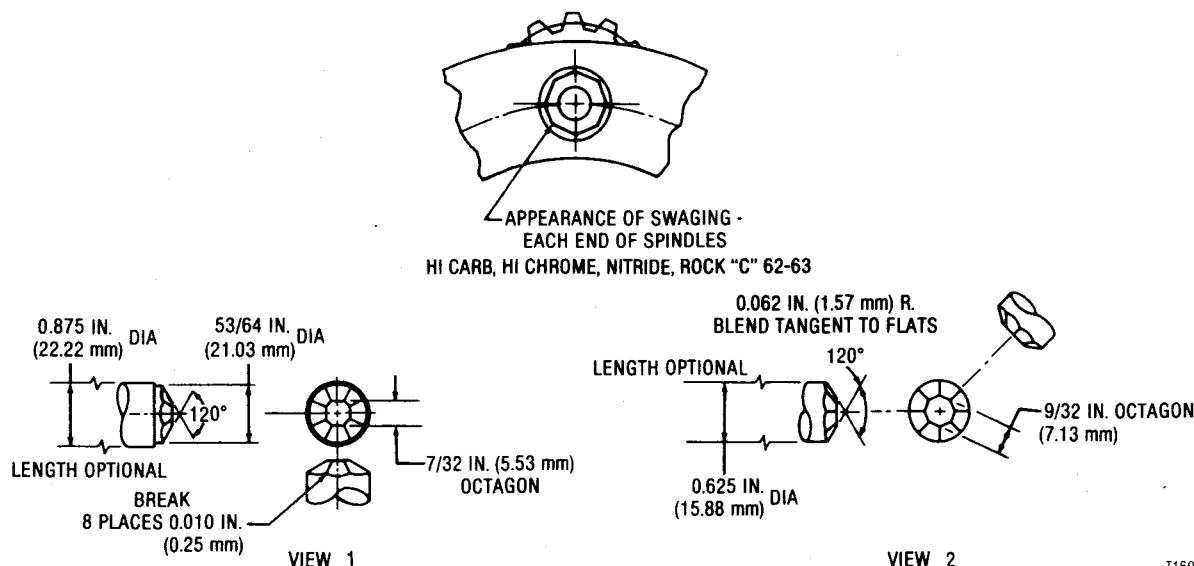

Fig. 6-30. Swaging tools
(9) Refer to Table 6-2, N and to figure 6-30. Support the spindle and swage it securely at both ends with an octagon punch. The pinion must rotate freely after assembly.
(10) Install the remaining pinion assemblies in the same manner as described in steps (3) through (9).
(11) If chilled spindles were installed, apply a coating of oil around the spindles to inhibit rust.